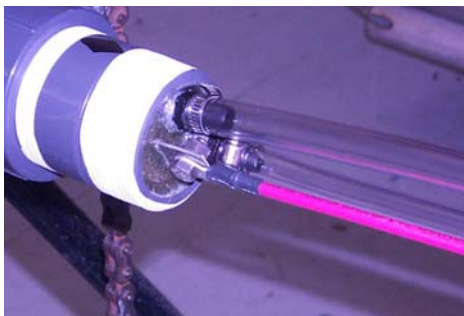

Figure 4
10. Take note of the location of the outlet Hose Barb. This must be at the 12:00 o'clock position in order for oxygen to be purged. [See Figure 4.]